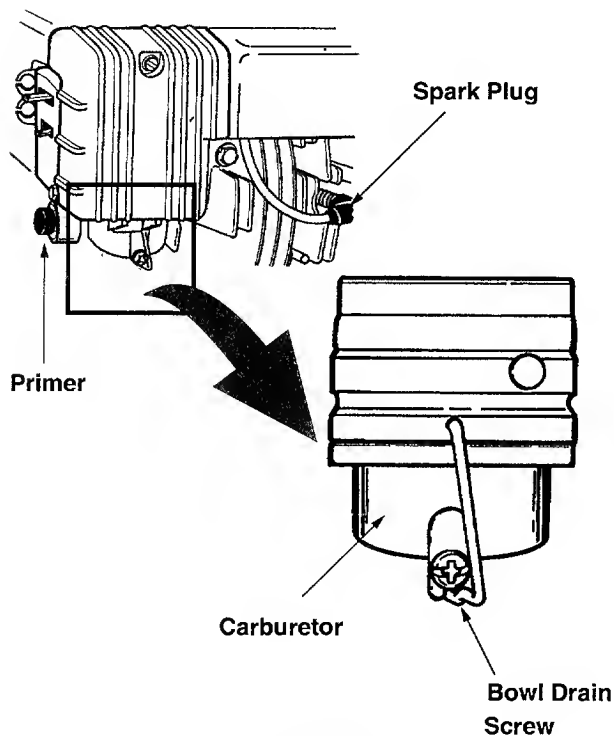

Figure 26
- Drain carburetor by removing bowl drain screw which is located below the carburetor. See Figure 26.